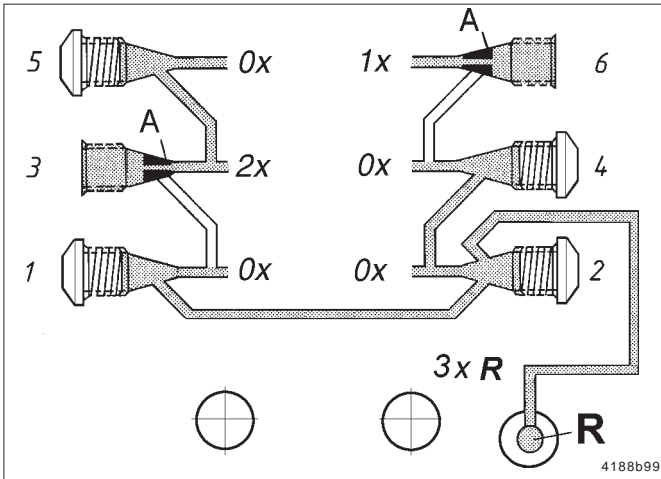

Fig. 4 - Internal feedback of supplied lubricant, only on back-side mounted SSV divider blocks
- All pumps with the **back mouted SSV divider block**, starting from serial No. 998000100C/001 have the cabability to feed back unused lubricant from closed outlets directly to the reservoir internally (see R Fig. 4).
- * To achieve this the outlet 2 should be closed with a closure plug (see Fig. 2). For instance (see Fig. 4) the lubricant from outlets 1, 2 and 4 will be internally feed back to the reservoir, outlet 3 will have double amount and outlet 6 will have single amount of lubricant.